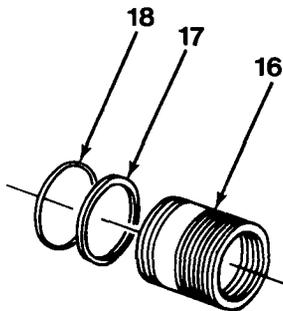

Figure 13-9
2. Install back-up ring (17) and O-ring (18) on head gland (16, Figure 13-9) with O-ring (18) towards inside of cylinder case.